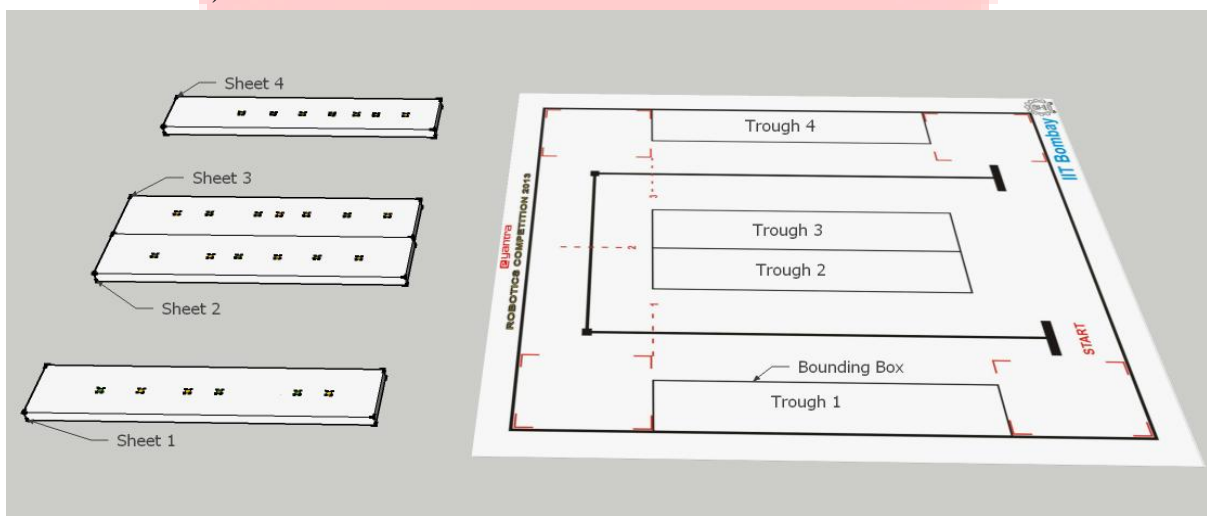

Figure 6: Placing of thermocol sheets in respective troughs
3. You are now ready to assemble the thermocol sheets on the printed flex. Place the thermocol sheets on the respective troughs as shown in Figure 6. Take care to align the sheets such that each sheet lies on the bounding box (marked on the flex sheet).